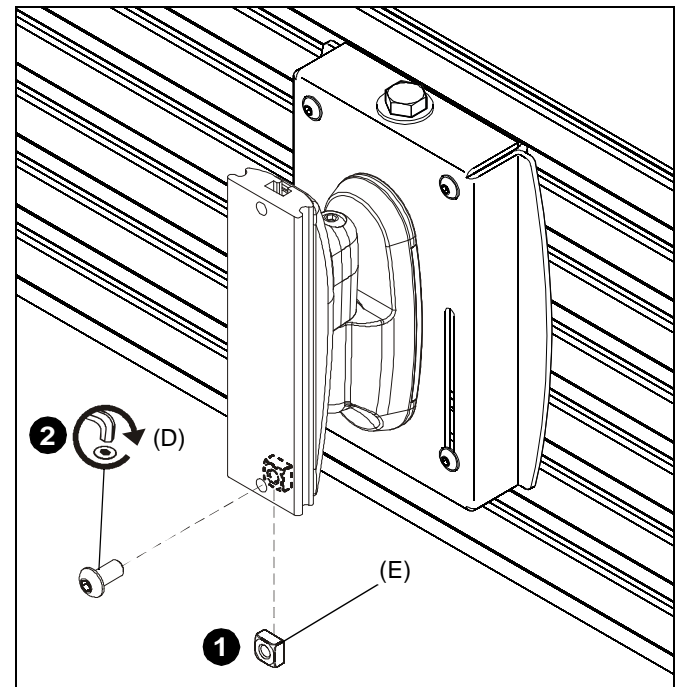

Figure 7
1. Install 1/4-20" square nut (E) into back groove of wall mount (C) and line up with bottom hole on plate. (See Figure 7)
2. Install 1/4-20 x 1/2" button head cap screw (D) into lower hole on wall mount (C) and through square nut (E)